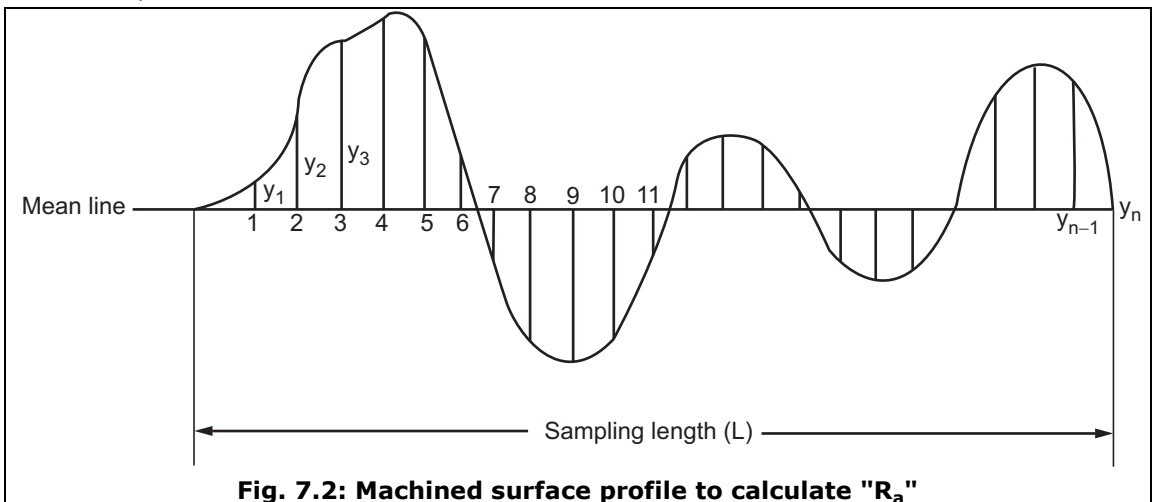

Fig. 7.2: Machined surface profile to calculate " R_a "
- Fig. 7.2 shows graph of a machined surface, for which, R_a value is to be measured.